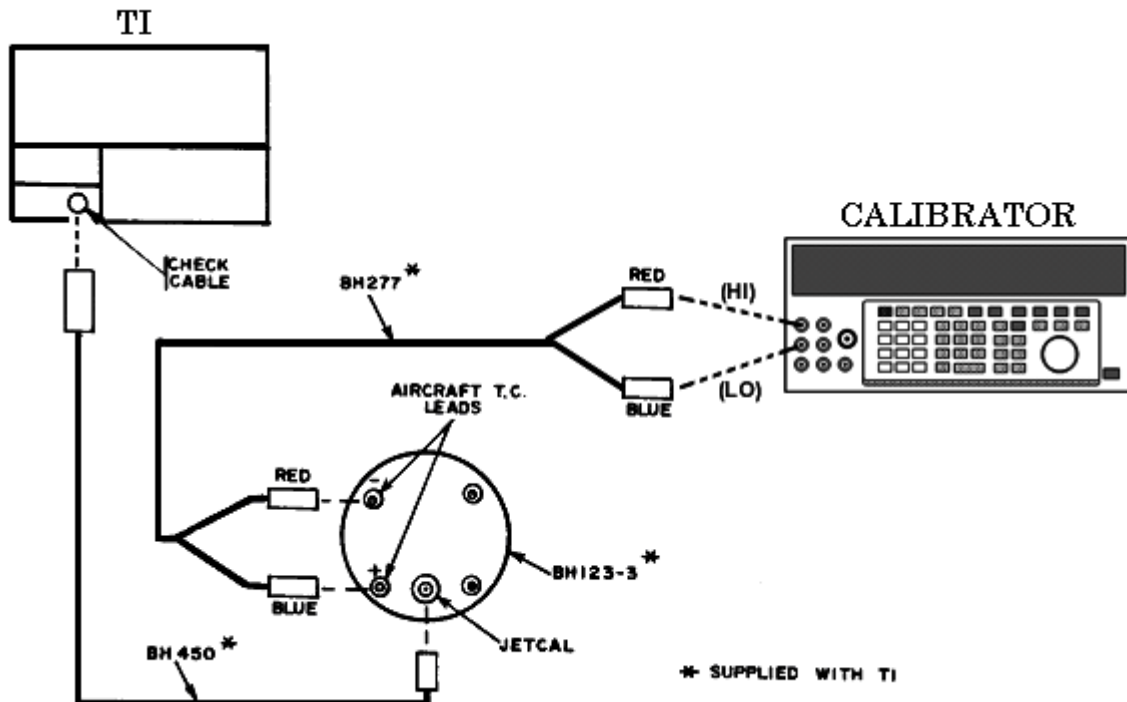
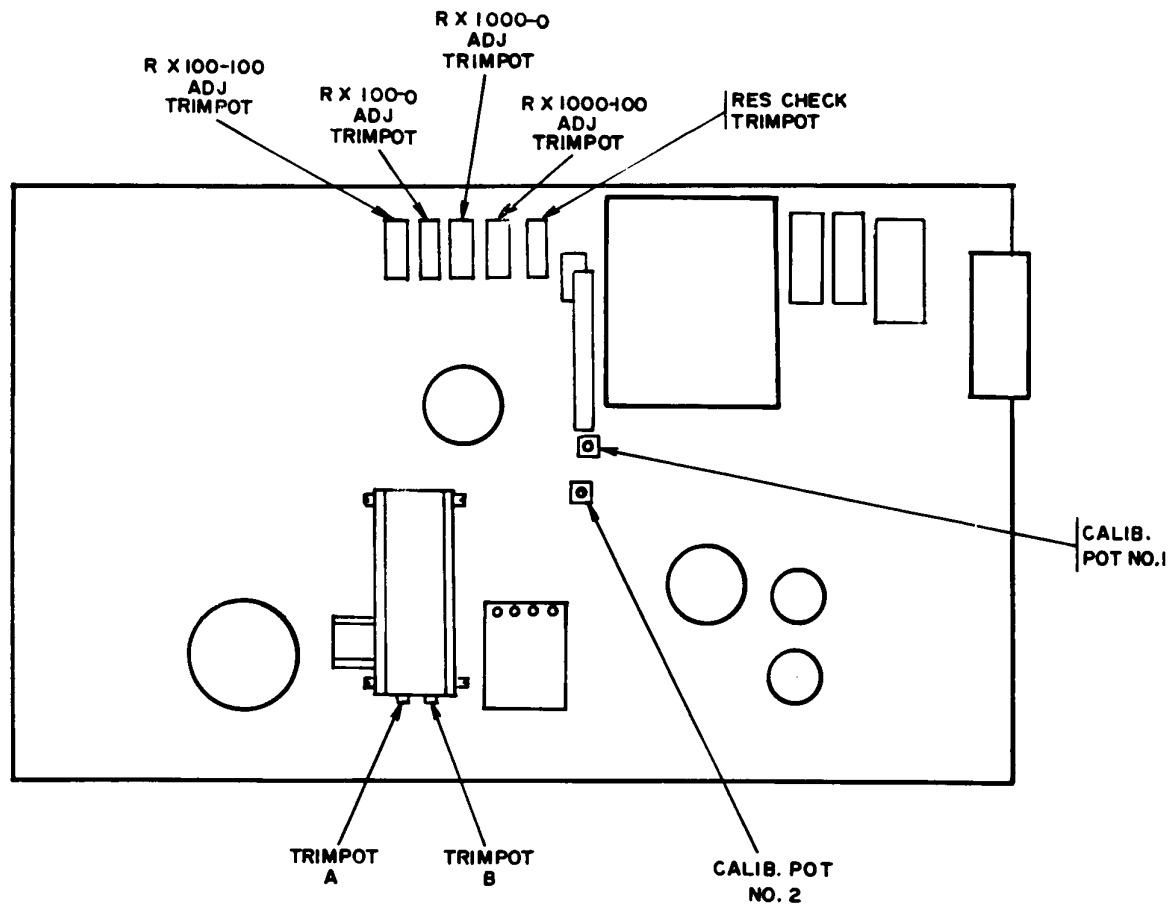
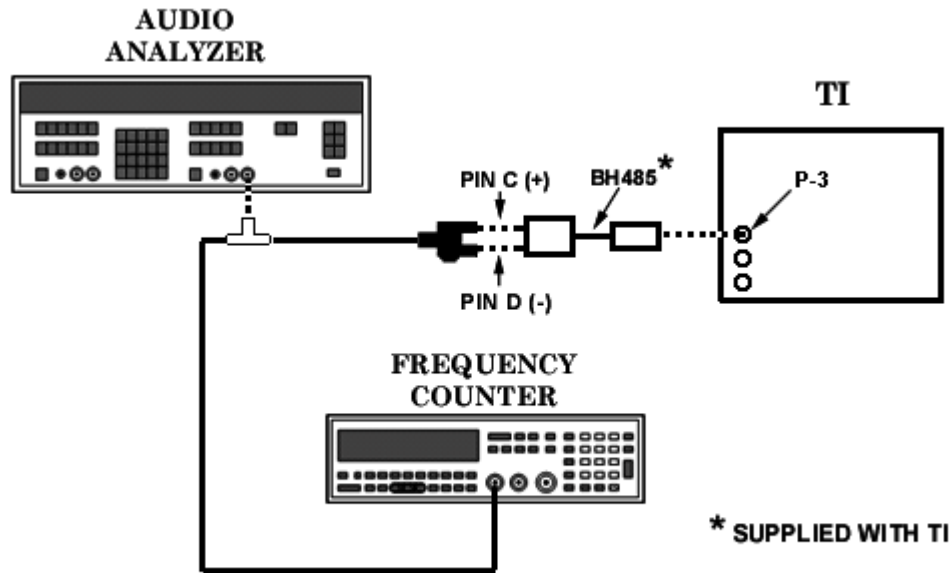

Figure 1. Potentiometer - equipment setup.
Figure 2. Adjustment locations -bottom view.
Figure 3. Rpm Check - equipment setup.
(1) Connect equipment as shown in figure 1.
- (1) Set **SW-6** switch to **MECH. ZERO**.
- (2) Connect equipment as shown in figure 1.
- (3) Adjust °C control for a **0** degree indication.
- (4) Repeat **a (6)** above.
- (5) Set **SW-6** switch to **RANGE**.
- (6) Adjust TRIMPOT B (fig. 2) until **GALVO-1** indicates **0**.
- (7) Repeat (1) above.
- (8) Set calibrator to standby and reverse connections at calibrator input.
- (9) Adjust °C control to **1000** dial indication.
- (10) Adjust output of calibrator to 41.269 mV, less millivolt value used in **a (6)** above.
- (11) Repeat (5) above.
- (12) Adjust TRIMPOT A (fig. 2) until **GALVO-1** indicates **0**.
- (13) Repeat (1) through (12) above until no further adjustments are required.
(9) Repeat technique of (4) through (7) above for each setting of **RESISTANCE CHECK SW-3** switch and set resistance standard to the value indicated on **SW-3**. **TI GALVO-1** will indicate within ± 5 divisions at all **SW-3** settings.
b. Adjustments. Adjust **RES CHECK TRIMPOT** (fig. 2) for **0** indication on **GALVO-1 (R)**.
- (1) Adjust resistance standard for 0 ohms.
- (2) Connect **TI INPUT RES. INSUL. P-2** to **HIGH** and **LOW** terminals of resistance standard using cables and insulation check adapter (BH485 and BH821, p/o TI).
- (3) Set **SELECTOR SWITCH SW-1** to **INSUL.** and **SW-8** switch to **RX100**. If **INSULATION CHECK** meter does not indicate **0**, perform **b (1)** below.
- (4) Adjust resistance standard for indication of 10,000 ohms on **INSULATION CHECK** meter. If resistance standard does not indicate between 9000 and 11,000 ohms, perform **b (2)** below.
(5) Repeat (1) above.
(6) Set **SW-8** switch to **RX1000**. If **INSULATION CHECK** meter does not indicate zero, perform **b** (3) below.
(7) Adjust resistance standard for an indication of 100,000 ohms on **INSULATION CHECK** meter. If resistance standard does not indicate between 90,000 and 110,000 ohms, perform **b** (4) below.
b. Adjustments (fig. 2)
(1) Adjust RX100 0 ADJ TRIMPOT for zero indication on **INSULATION CHECK** meter (R).
(2) Adjust decade resistor for 10,000 ohms and adjust RX100-100 ADJ TRIMPOT for **INSULATION CHECK** meter indication of 10,000 ohms (R).
(3) Adjust RX1000-0 ADJ TRIMPOT for zero indication on **INSULATION CHECK** meter (R).
(4) Adjust RX1000-100 ADJ TRIMPOT for **INSULATION CHECK** meter indication of 100,000 ohms (R).
(1) Set **SW-7** switch to **MECH. ZERO**.
(2) Adjust **GALVO-2 MECH. ZERO 4** control for **0** indication.